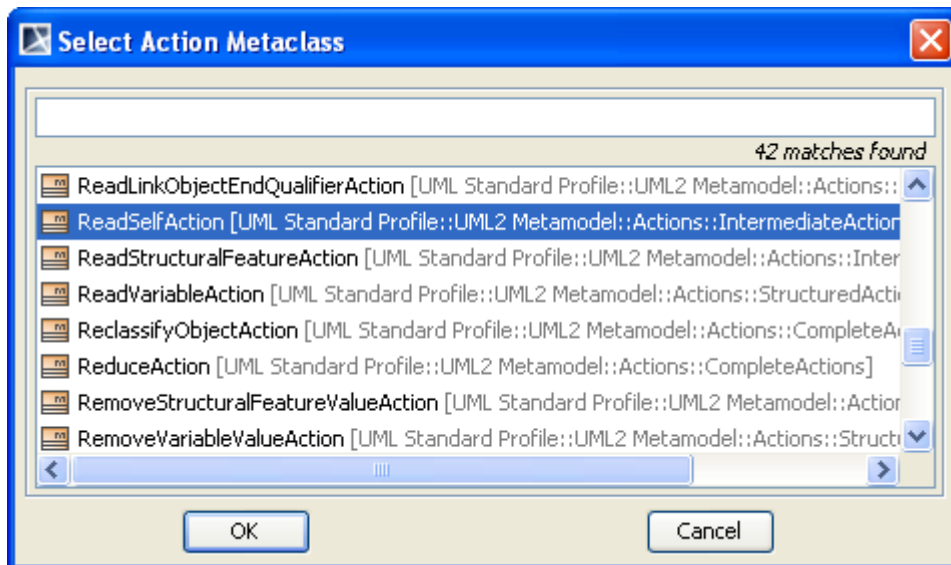

Figure 68 -- Select Action Metaclass Dialog
1. Right-click **Any Action** on the diagram toolbar of the Activity diagram. The **Select Action Metaclass** dialog will open (Figure 68).